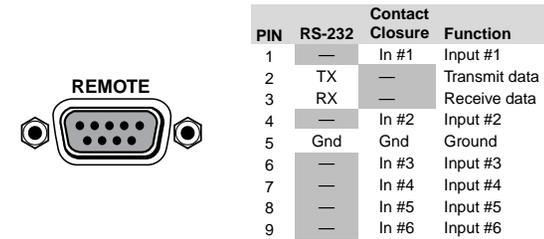

Figure 2-7 — Remote connector pinout
- ⑦ **Remote RS-232/contact closure connector** — Connect a computer or control system to this 9-pin D connector (figure 2-7) to allow remote control using the Simple Instruction Set (SIS™), the Extron graphical control program for Windows, or a contact closure device. See chapter 3, "Remote Control", for details.